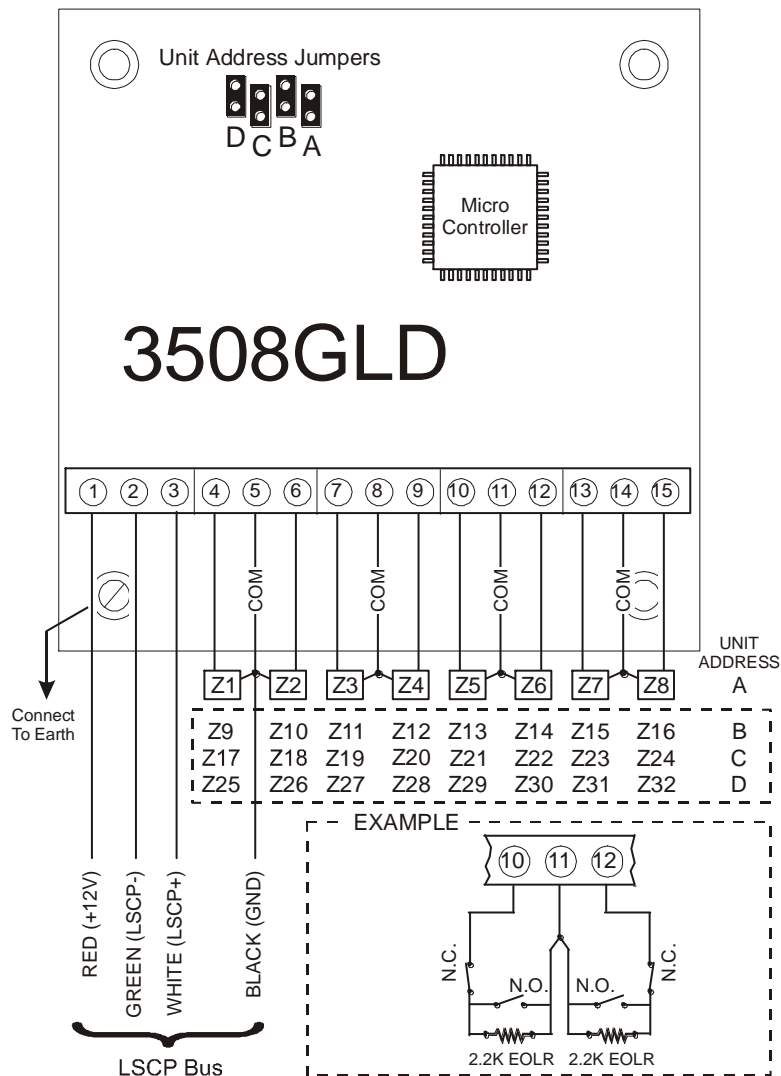

Figure1: Wiring Diagram
5. Install the unit address jumper in the appropriate location to determine the zone range (1-8/9-16/17-24/25-32) – refer to Figure 1: Wiring Diagram.